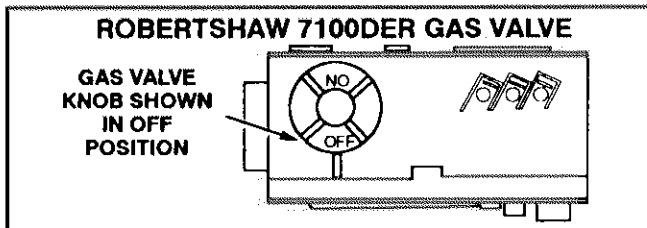

FIGURE 3
Gas Valve Operation for Robertshaw 7100DER Series Valve (Figure 3 - 5)
- 6- On Robertshaw 7100D and Honeywell VR8204 gas valves, turn knob on gas valve clockwise to OFF. Units with Robertshaw 7200 gas valve, depress lever and move to OFF position. Do not force. See figures 3 through 5.